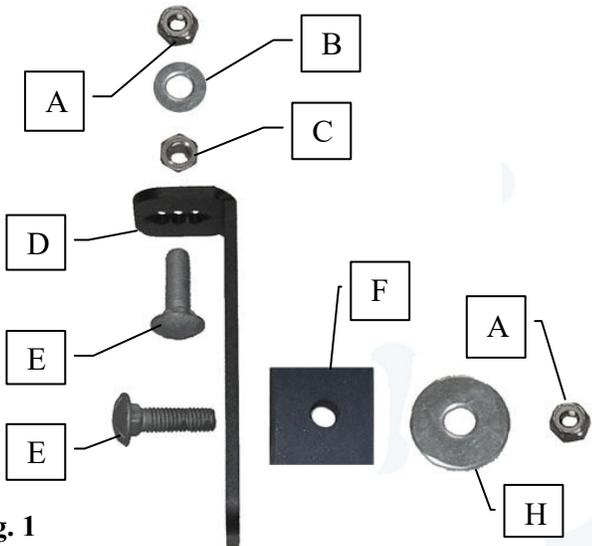

Fig. 1
- 1. Partially assemble the Stake Pocket Insert Components.** When you receive the Universal Stake Pocket Insert, it may be assembled or unassembled as shown in Fig. 1. In order to install the Inserts, you should first examine parts C, D and E shown above. Notice that the Universal Insert Body (D) consists of flat metal bar containing a series of diamond-shaped holes with one end bent at a right angle. Insert a carriage bolt from the bottom side into one of the three diamond shaped holes and then screw a jam nut onto the bolt to hold it in place. The purpose of this bolt is to connect the Insert to the bottom of the Rack and hold it firmly in place. The purpose of the holes on the long side of the body is to provide a variety of locations from which to project the other carriage bolt through the hole in the side of the stake pocket that leads to the truck bed interior and connect the Insert to the truck body.